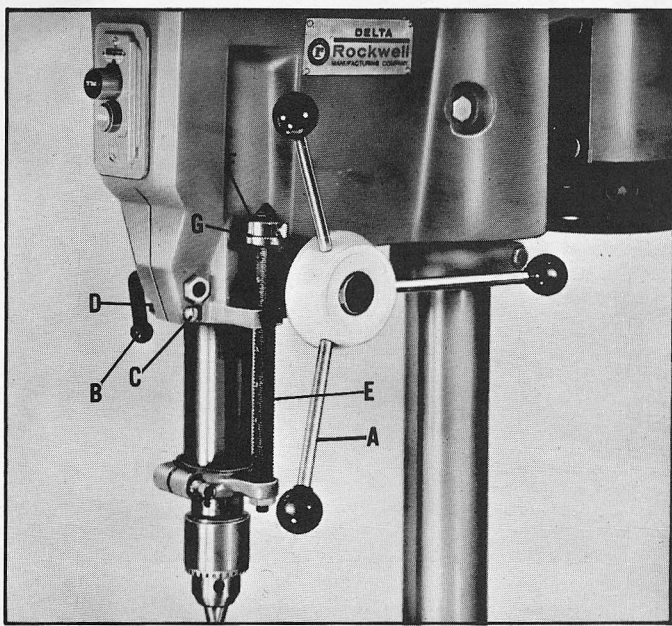

Fig. 5.
When drilling one or two holes to a predetermined depth, the calibrations on the face of the depth stop rod (E) Fig. 5, can be used.
1. Raise the locking sleeve (F) Fig. 5, and turn the micro-nut (G) to the desired position on the stop rod (E).
2. Lower the locking sleeve (F) so it will engage micro-nut (G) Fig. 5. Lock sleeve in place with thumb screw if drill press head is mounted in other than vertical position. When the drill press is mounted with the chuck pointing up, the locking sleeve (F) and Micro-Nut (G) Fig. 5, should be reversed on the stop rod (E).
3. When locking sleeve (F) is in place on the micro-nut (G) Fig. 5, the micro-nut can not be turned. When a change in depth is required, the locking sleeve (F) must be raised and while it is raised, turn the micro-nut (G) the necessary calibration marks. Each mark represents $.002''$. Then lower the locking sleeve.
The spindle is raised and lowered by the hand lever (A) Fig. 5. The quill can be locked at any desired point in its travel by tightening the quill lever (B) Fig. 5. This is an especially desirable feature for router and shaper work.
The adjusting screw (C) Fig. 5 and nut (D) are set at the factory to give the quill the proper sliding fit in the head casting. After long service play between quill and head casting can be removed without the need to replace these parts. The nut (D) Fig. 5 is loosened, adjustment is made with the screw (C), and the nut is again tightened to prevent the screw from turning. Hold the screw with a screwdriver when nut is tightened, and check by moving the quill up and down several times to be sure the quill does not bind. This adjustment should be made with the stop rod (E) Fig. 5 removed.